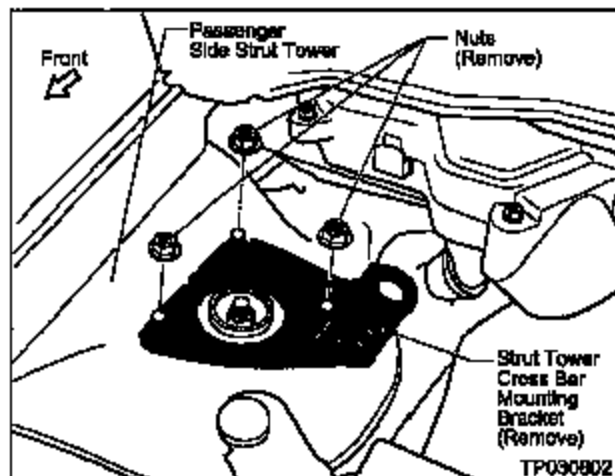

Figure 2
- c. Take off three Nuts and remove the Strut Tower Cross Bar Mounting Bracket (see Figure 2).